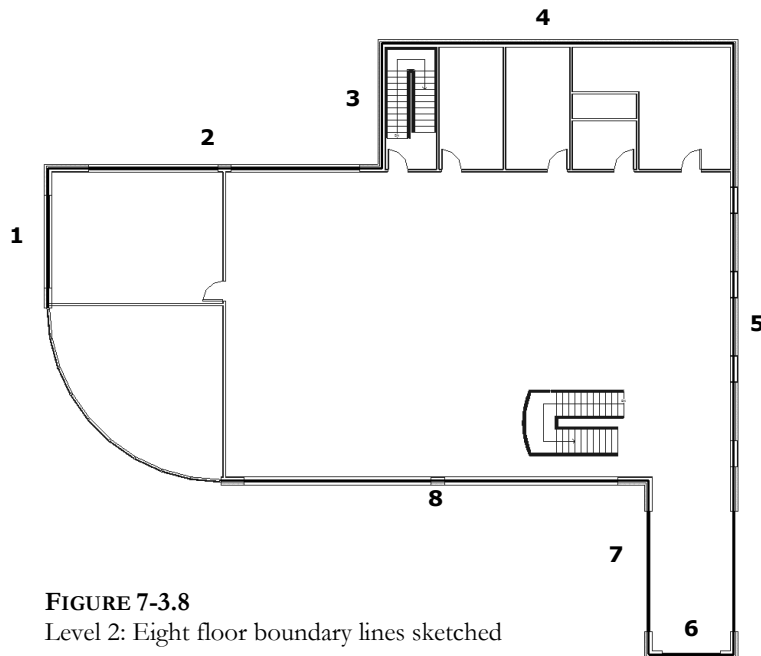

FIGURE 7-3.8 Level 2: Eight floor boundary lines sketched
22. Using the *Pick Wall* icon, select the walls shown in Figure 7-3.8: